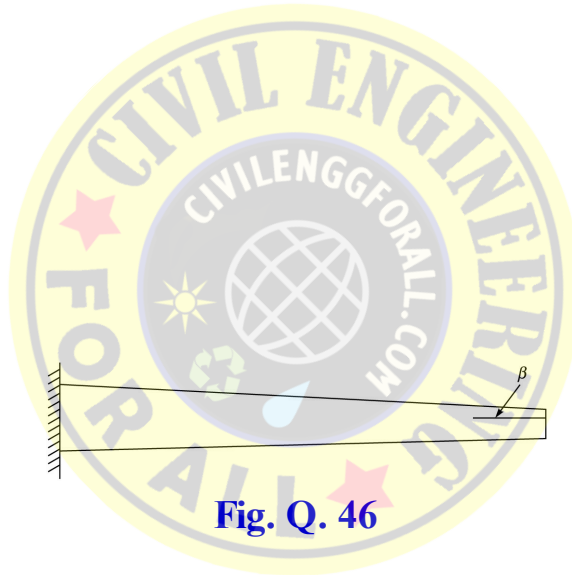

Fig. Q. 46
46. The Fig. Q. 46 shows a cantilever of width b and varying depth d . If V_u is factored shear force and M_u is factored bending, average shear stress T_v is given by